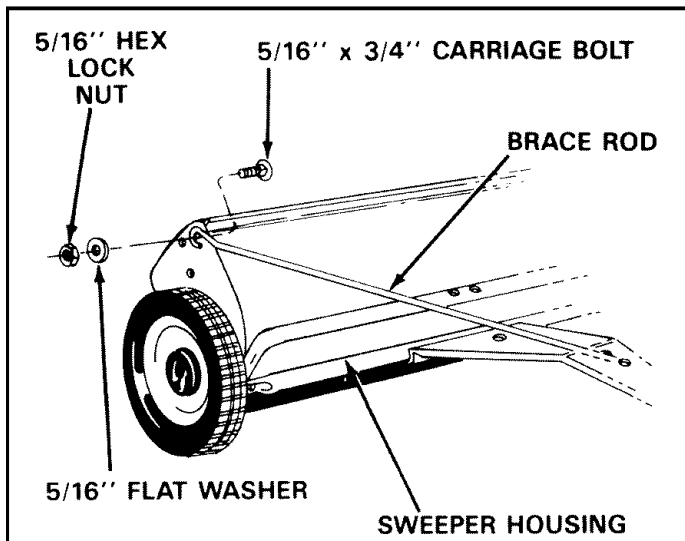

FIGURE 2
- Attach the brace rod to the square hole in the sweeper housing using two 5/16" x 3/4" carriage bolts, 5/16" flat washers and 5/16" hex lock nuts. Place bolts heads on inside of sweeper housing. **Do not tighten at this time.** See figures 2 and 3.